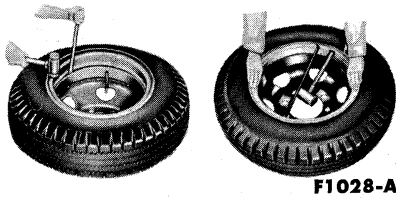

FIG. 5 Installing and Checking Ring—2-Piece Rim
3. Insert the straight end of the rim tool in the notch, and pull the ring onto the rim, at the same time forcing the ring over the gutter with a soft hammer (Fig. 5). Remove the tool, and continue to drive the ring down until it is entirely engaged in the gutter. Press down on the ring (as shown in Fig. 5) to make certain that it will rock. If there is no movement, the ring is not completely seated and will be forced off violently, either during inflation or when the truck is operated. When inflating the tire, do not stand in front of the ring.